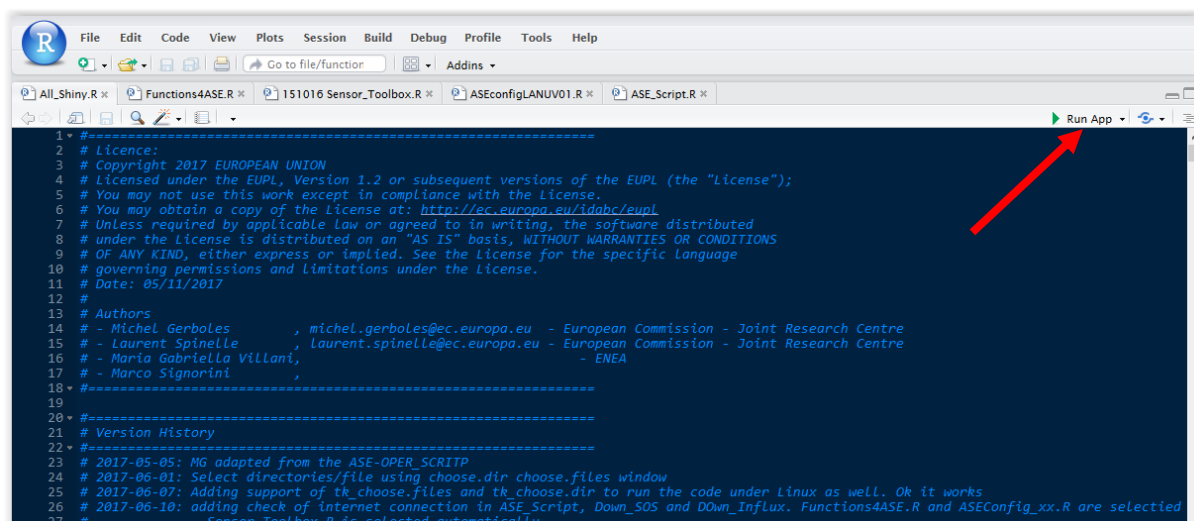

Figure 1: Starting the AirSenseEUR R/Shiny web interface in RStudio
3. Run the R/Shiny script by clicking on the "Run App" button, upper right under the main menu (see Figure 1)